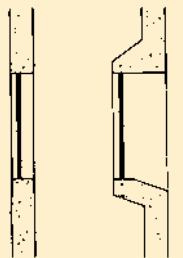

Fig. 6 Fig. 7
- They can be in the same plane (punched), without sills or projections (Fig. 6)